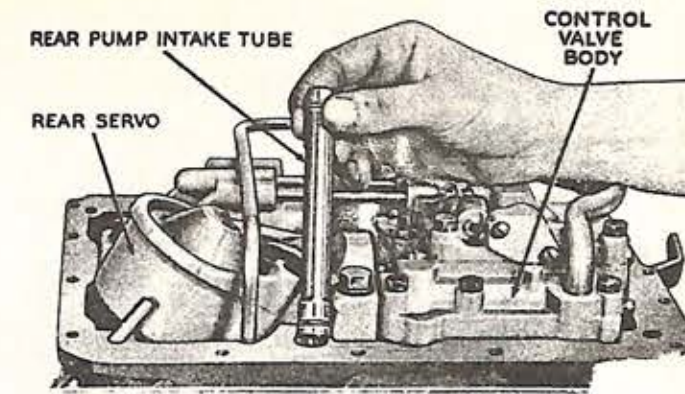

Fig. 22
1. Remove the rear pump intake tube from the bore in the transmission (Fig. 22). Be careful not to bend the tube.